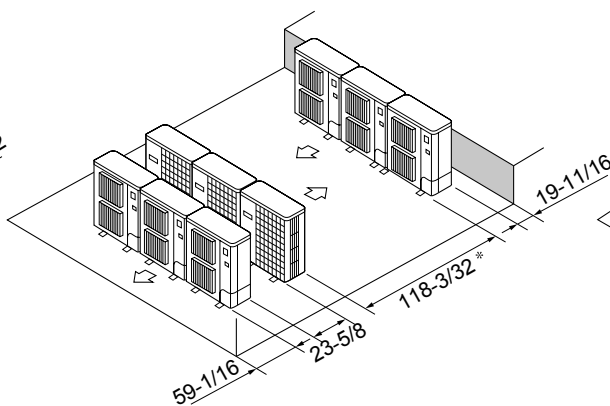

Fig. 2-17
- ⑥ Multiple parallel unit arrangement (Fig. 2-17)